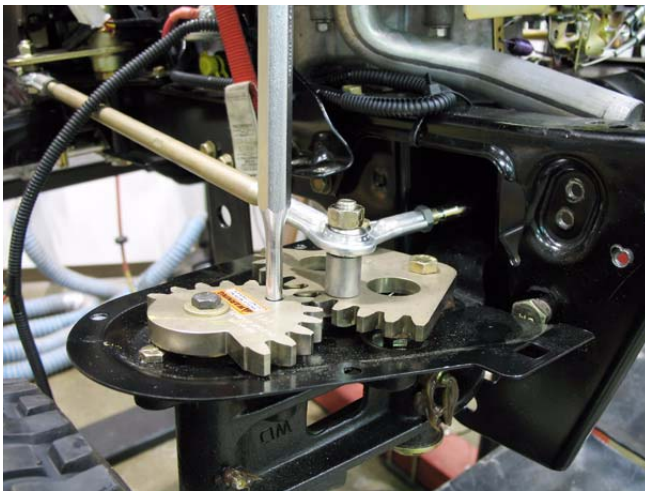

Figure 6.30
- 1b. Insert a 5/16" pin punch into one of the alignment holes to lock the steering gears in place. See Figure 6.30.